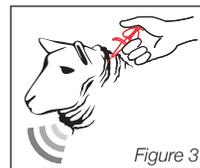

Figure 3
5. Depress the plunger until you hear an audible "click." This lets you know that the microchip has been fully expelled from the syringe, as seen in Figure 3.